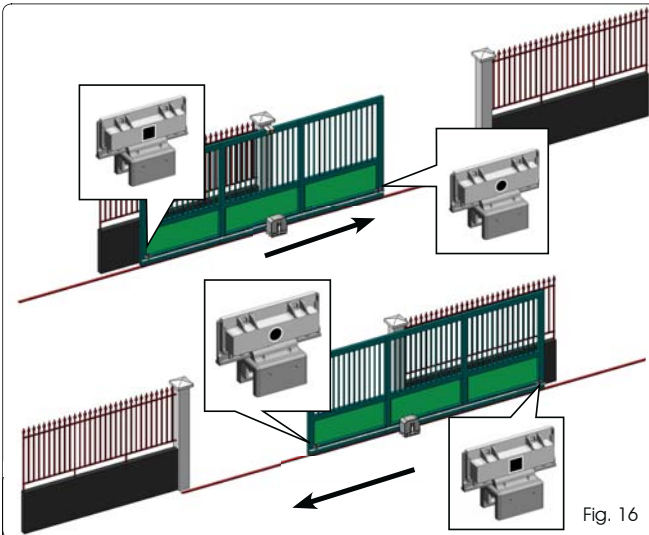

Fig. 16
2. Move the gate to **opening** position manually, leaving 40 mm from the limit switch mechanical stop (see Fig. 16).
(SEE FIG. 16)